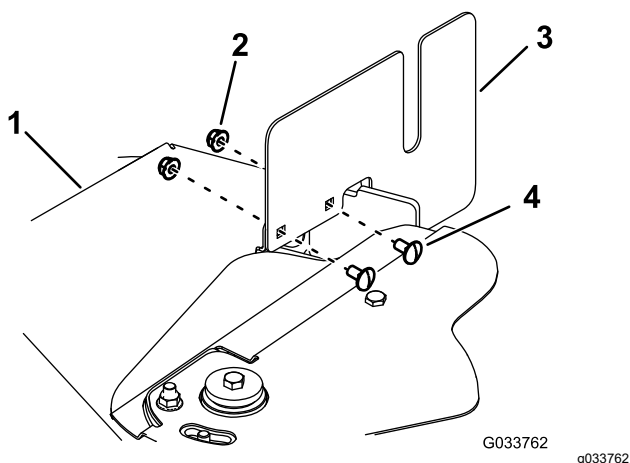

Figure 69
5. Remove the 4 carriage bolts and 4 nuts connecting the 2 side covers to the belt covers (Figure 69).
12. Install the 2 side covers to the belt covers using the 4 carriage bolts and 4 nuts (Figure 69).